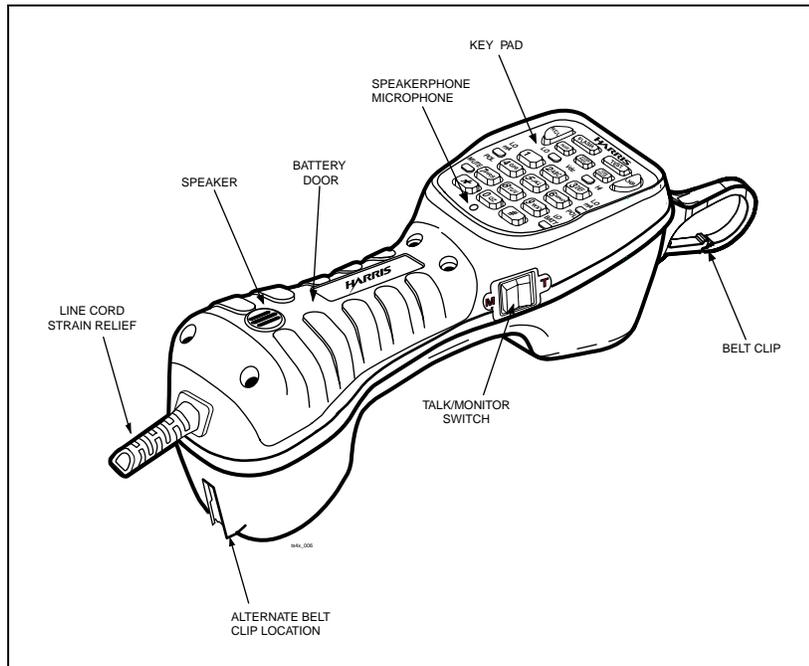

Figure 1. Physical Characteristics
The housing for the TS44 Deluxe Test Set is made of high-impact plastic (see Figure 1). The test set is designed to provide rugged service and withstand the rough handling and shocks normally associated with field use. The housing is designed to permit operation of the test set in bad weather (e.g., in heavy rain and dust storms).
The belt clip (see Figure 1) can be located at either or both ends of the housing. It has a spring-loaded, locking clip that assures a secure connection to belt loops and D-rings. Both forward folding and backwards folding versions of the belt clip may be installed on the test set. The test set can be hung by the belt clip in one of two ways: (1) with keypad and speakerphone facing the user for convenient access or (2) with the transmitter facing the user. The belt clips may be replaced or relocated in the field. See Maintenance, Replacing or Relocating the Belt Clip.
The test set is equipped with a field replaceable line cord. The line cord is attached to the test set through a rubber strain relief at the transmitter end of the test set (see Figure 1). Several different configurations of line cords are available.
The test set provides a battery compartment (see Figure 1) which makes battery replacement a simple procedure. See Maintenance, Replacing the Battery.
The loud speaker and speakerphone microphone (see Figure 1) are located on the keypad side of the test set. The loud speaker draws more current than any other circuit in the test set. It follows that the battery will last longer if the loud speaker is used in moderation.
The TALK/MONITOR switch is a rocker switch located on the side of the test set (see Figure 1). Switching the TALK/MONITOR switch to the TALK (T) position puts the test set into Talk mode. Switching the TALK/MONITOR switch to the MONITOR (M) position puts the test set into Monitor mode.